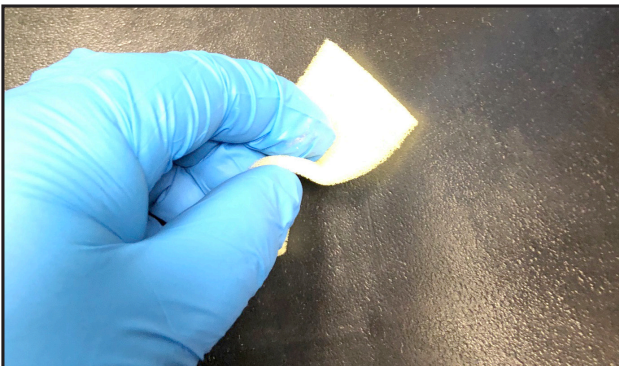

Fig 1
STEP 2. Wearing the provided gloves use the adhesive promoter on the plastic tunnels only. Allow to dry **Fig 1**